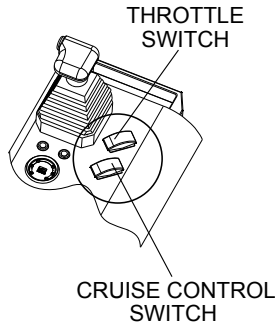

Figure 13. Throttle Switch
1. Each press of the Throttle Switch (Figure 13) steps it from idle to operating speed if operator presence is detected.